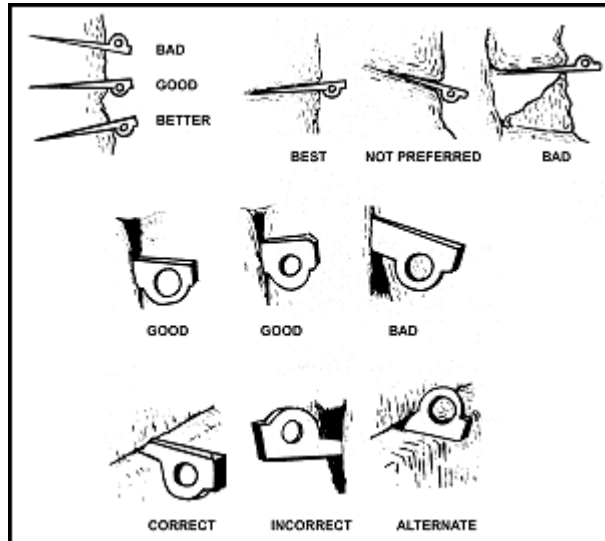

Figure 5-12. Examples of piton placements.
c. **Piton Placement.** The proper positioning or placement of pitons is critical. (Figure 5-12 shows examples of piton placement.) Usually a properly sized piton for a rock crack will fit one half to two thirds into the crack before being driven with the piton hammer. This helps ensure the depth of the crack is adequate for the size piton selected. As pitons are driven into the rock the pitch or sound that is made will change with each hammer blow, becoming higher pitched as the piton is driven in.
(1) Test the rock for soundness by tapping with the hammer. Driving pitons in soft or rotten rock is not recommended. When this type of rock must be used, clear the loose rock, dirt, and debris from the crack before driving the piton completely in.
(2) While it is being driven, attach the piton to a sling with a carabiner (an old carabiner should be used, if available) so that if the piton is knocked out of the crack, it will not be lost. The greater the resistance overcome while driving the piton, the firmer the anchor will be. The